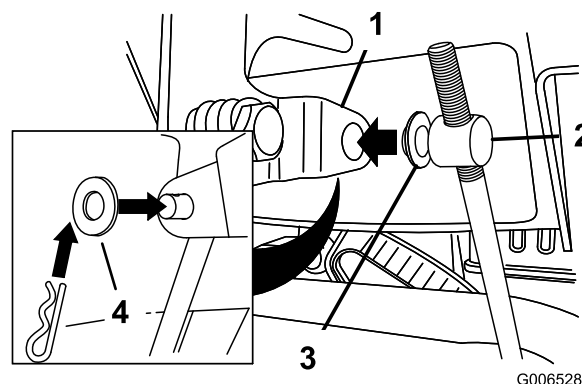

Figure 3
5. Remove the hairpin cotter and the outer washer from the trunnion on the upper end of the speed control rod (Figure 3).
Note: Do not remove the inner washer (Figure 3).
8. Lift up the speed control rod and insert the trunnion in the hole in the speed selector lever located under the control panel (Figure 3).